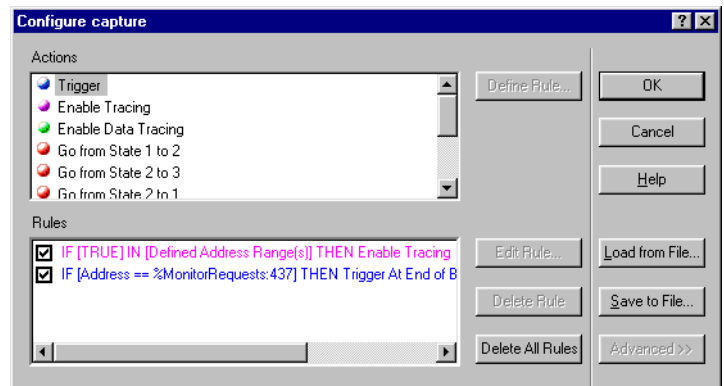

Figure 8-34 Completed Configure capture dialog box
7. Click **Finish** to complete the rule. The Configure capture dialog box shown in Figure 8-34 now has two rules in the Rules list.